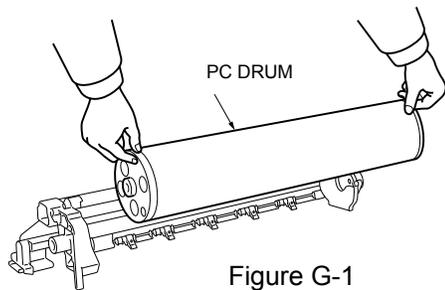

Figure G-1
1. Install the new PC drum to the stops in the cleaning unit as shown in Figure G-1.